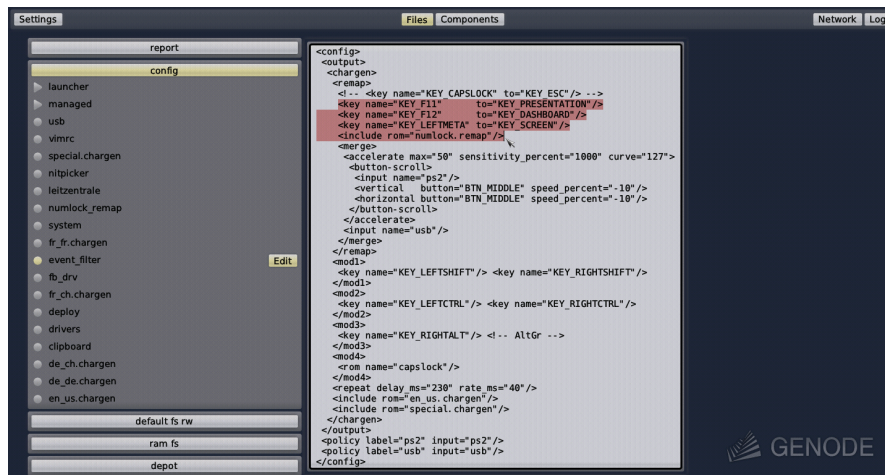

Figure 17
**Interactive file browser** The “Files” tab of the panel switches the main screen area to a simple file browser that lists all file systems available, in particular the *config* and *report* file systems (Figure 17). By toggling one of the file-system buttons, the respective directory hierarchy can be browsed. When hovering a file, an “Edit” or “View” button